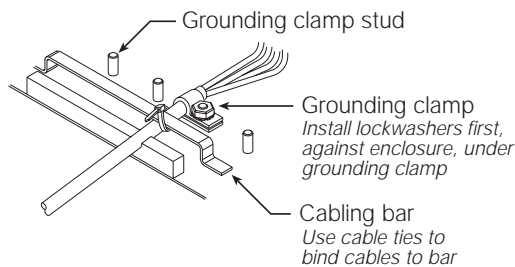

Figure 5. Cable Installation with Grounding Clamp
- Route cables under cabling bar (see Figure 5) and through grounding clamps to determine cable lengths required to reach cable connectors. Mark cables to remove insulation and shield as described below: